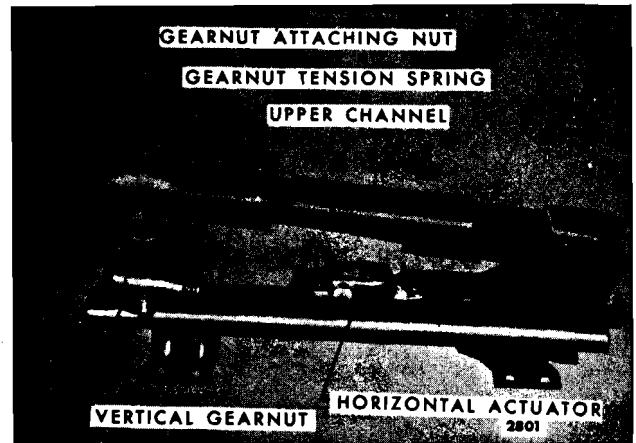

Fig. 15-16—Four-Way Seat Adjuster - Buick "B, C & E" Styles
2. Remove vertical gearnut attaching nut and gearnut tension spring (Fig. 15-16).
3. Lay adjuster on its side and remove screws securing vertical gearnut to adjuster lower track; then, remove gearnut from adjuster (Fig. 15-16).
sure horizontal actuator is properly adjusted (Fig. 15-16 and 15-17), so that drive gear is fully engaged with teeth on lower channel.